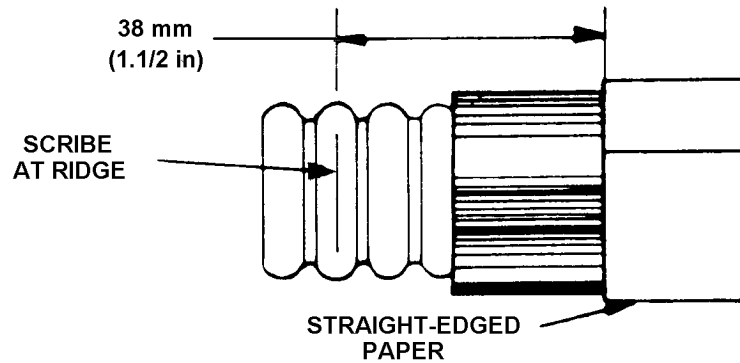

Figure 1.21 - Second Jacket Cut
- 8.2 Scribe a line on a ridge of the exposed corrugated outer conductor (Figure 1.21). Using a straight-edged piece of heavy paper, wrapped around the cable as a cutting guide, remove the jacket to the dimension shown in Figure 1.21.